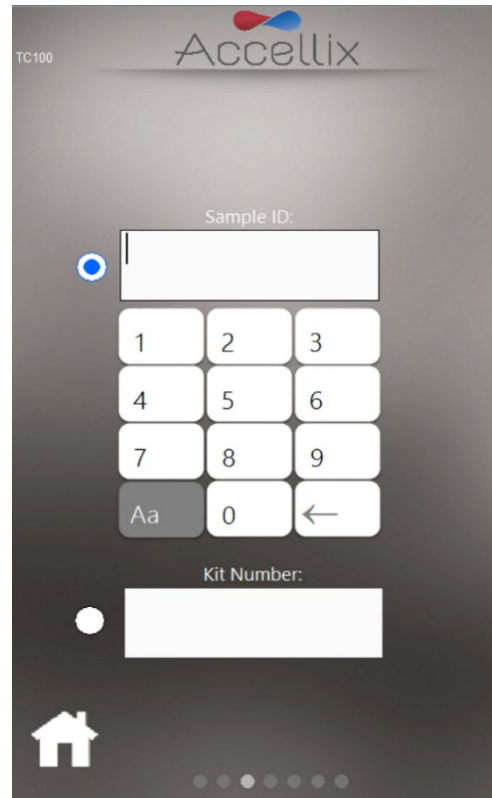

Figure 37: Enter Sample ID screen (with and without Kit Number)
6. On the **Enter Sample ID screen** (Figure 37), enter the Sample ID using the on-screen keypad by using an external keyboard or barcode scanner. The Sample ID will then be displayed on all subsequent screens of the assay run.
Note: In an optional configuration of the software, the user is also required to enter a Kit Number. (See the image on the right-hand side of Figure 37)